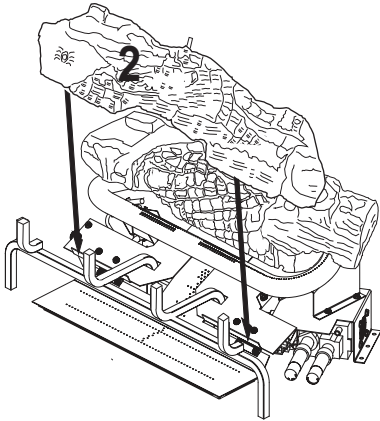

Figure 38 - Installing Log # 2
2. Place the middle log (#2) in front of the U-burner and against the edges of the plate as shown in Figure 38, page 22.